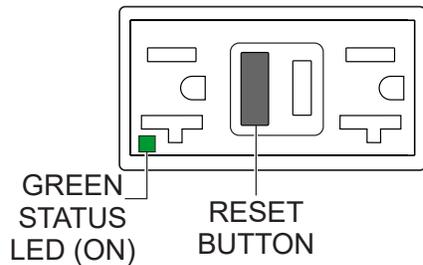

Figure 75. GFCI Receptacle (ON/Restore)
5. Press the **RESET** button (Figure 75) to restore power to the GFCI receptacle and verify that the status LED is **ON (GREEN)**.